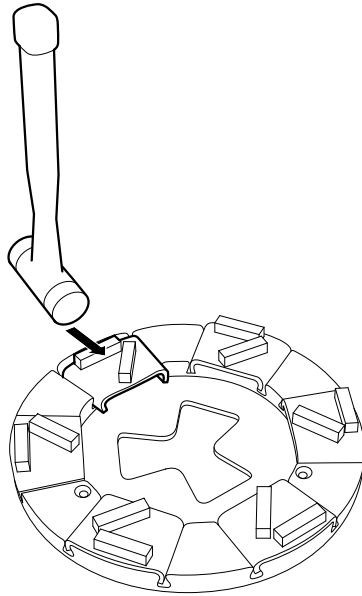

Figure 4-5 Removing grinding tools
1. Remove the grinding tool by giving it a few light taps with a rubber hammer so the locking mechanism releases, see Figure 4-5 on page 20. Then draw the tool up out of the guide slot.